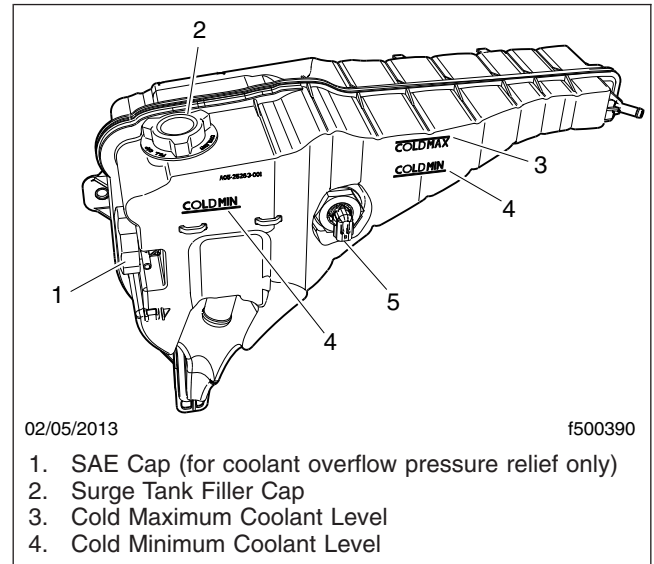

Fig. 1, Surge Tank
1. Remove the fill cap first, to relieve the cooling system pressure, then remove the SAE cap; see Fig. 1.